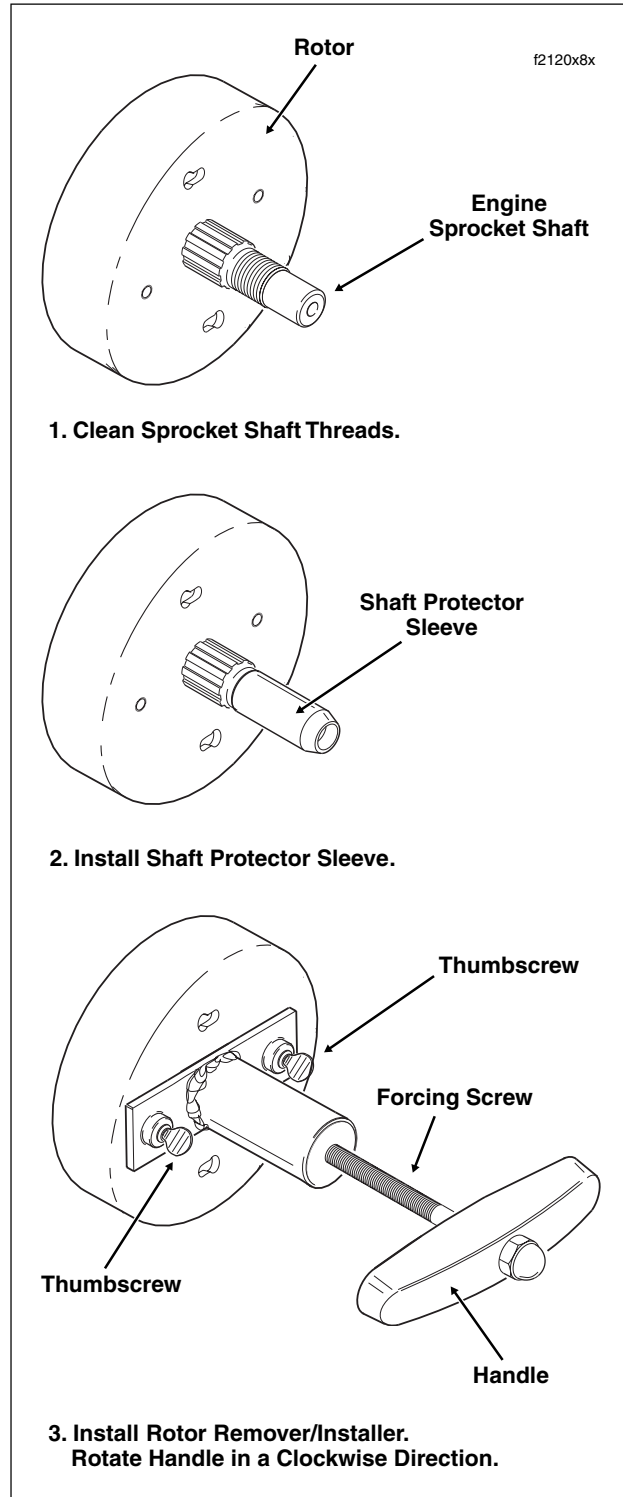

Figure 8-11. Remove Rotor from Engine Sprocket Shaft
- a. Verify that threads of engine sprocket shaft are clean, especially of old Loctite material. Thread the Shaft Protector Sleeve onto the shaft. See Figure 8-11.
- a. Install the Shaft Protector Sleeve and Rotor Remover/Installer, if removed. See Figure 8-11.